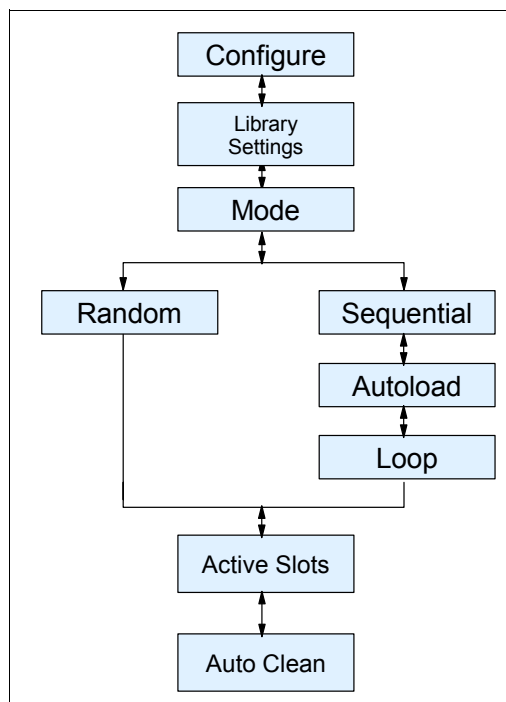

Figure 8-13 Configure: Library Settings
Figure 8-13 shows the Library Mode menu and the configuration options.
- In *Sequential* mode, the library's firmware predefines the selection of the cartridges. After initialization, the firmware causes the library to select the first available cartridge found (counting from 1 through 22) for loading into the drive. In Figure 8-13, you find the tree structure of the Library mode menu.